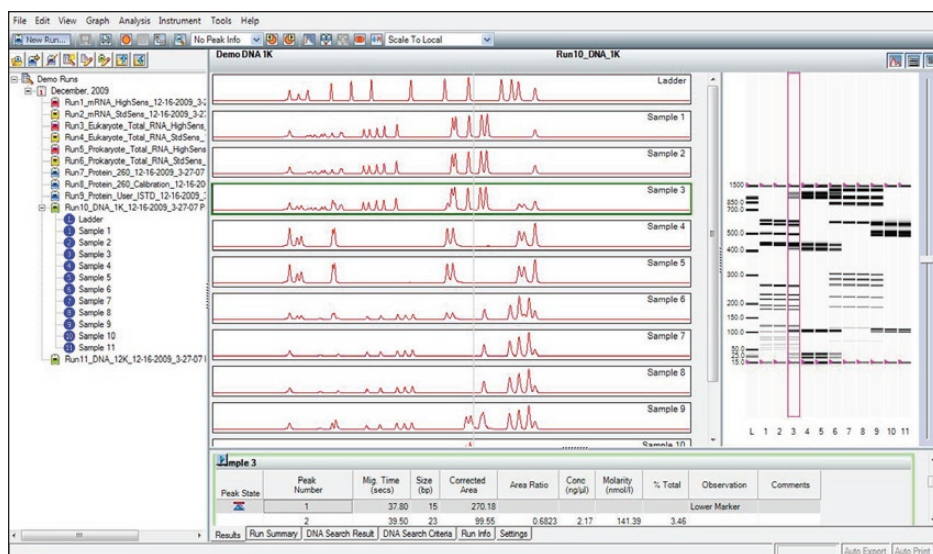

Fig. 4.5. All-wells view.
To display all electropherograms simultaneously (Figure 4.5):
2. Electropherograms for each sample populate the electropherogram view (Figure 4.5). Use the scroll bar to scroll through the electropherograms, or minimize the results and settings table to accommodate the multiple electropherograms.